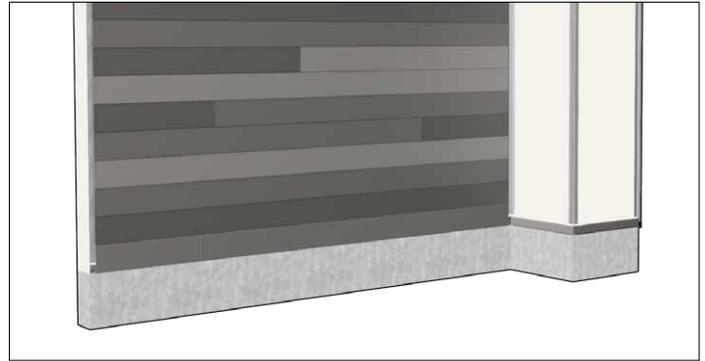

Figure 20.1
20. To ensure variation of the woodgrain pattern, select Planks from different packages of your order to be installed adjacent to each other. Do not use identical patterns on successive rows. (Figure 20.1)